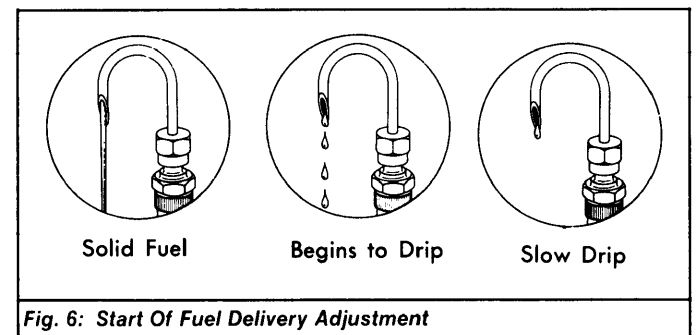

Fig. 6: Start Of Fuel Delivery Adjustment
4) Turn engine over slowly in normal direction of rotation until fuel stream from overflow pipe stops dripping. See Fig. 6. At this point piston has covered intake bore in pump cylinder. If pointer on timing cover coincides with mark on crankshaft damper, start of fuel delivery is correct.
5) Connect Auxiliary Fuel Container (000 589 05 23 00) to intake side of fuel pump. Turn engine over slowly in normal direction of rotation until fuel stream from overflow pipe stops dripping. See Fig. 6. Another drop may follow 10-15 seconds later, but this is normal.